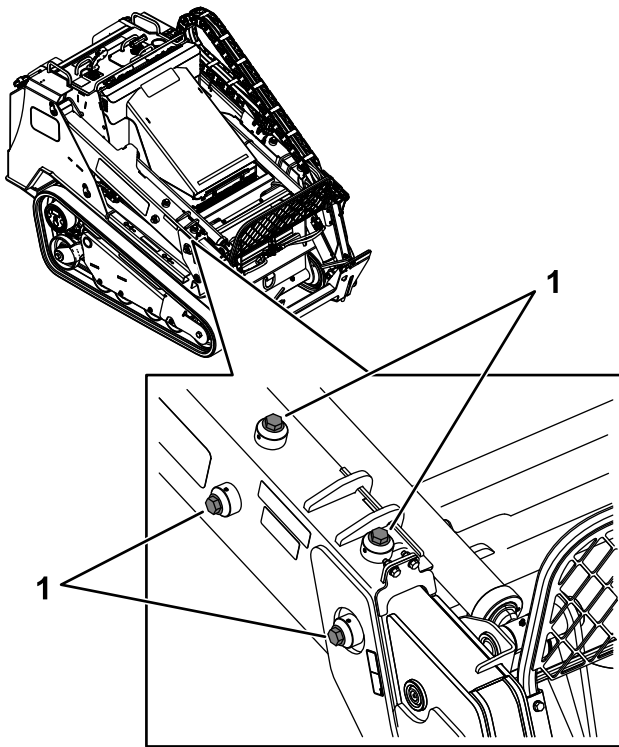

Figure 83
3. On each loader arm, loosen the setscrew on the 4 adjustment screws (Figure 83).